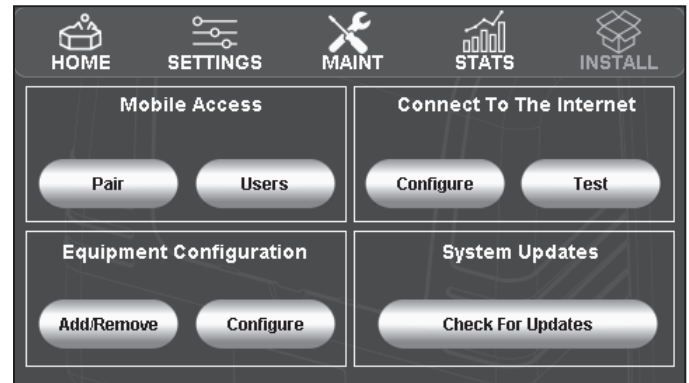

Figure 9. Halo Install Main Screen
2. Press "Configure" in the "Equipment Configuration" section as shown in *Figure 9* then select "Chlorinator".